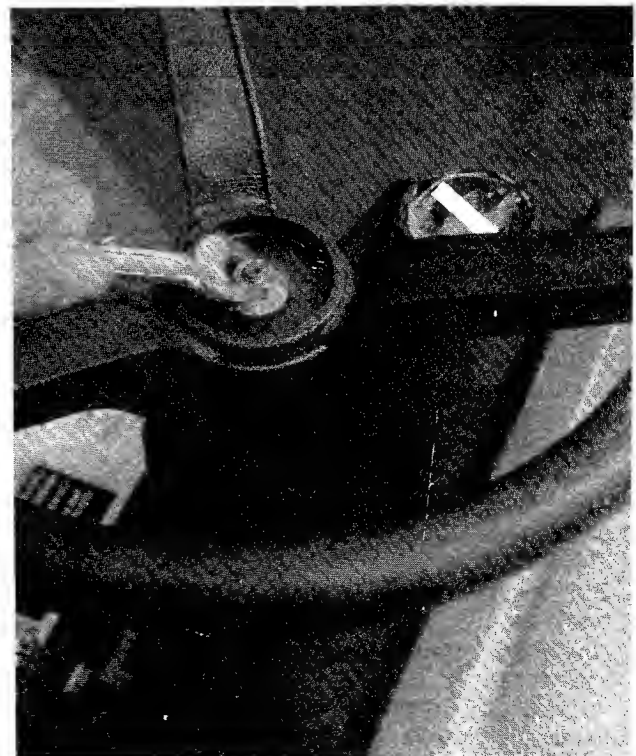

Figure 1.
1. Place the steering wheel over the steering column extending through the dash. Line up the flats on the steering column with the flats in the steering wheel. (See figure 1.)